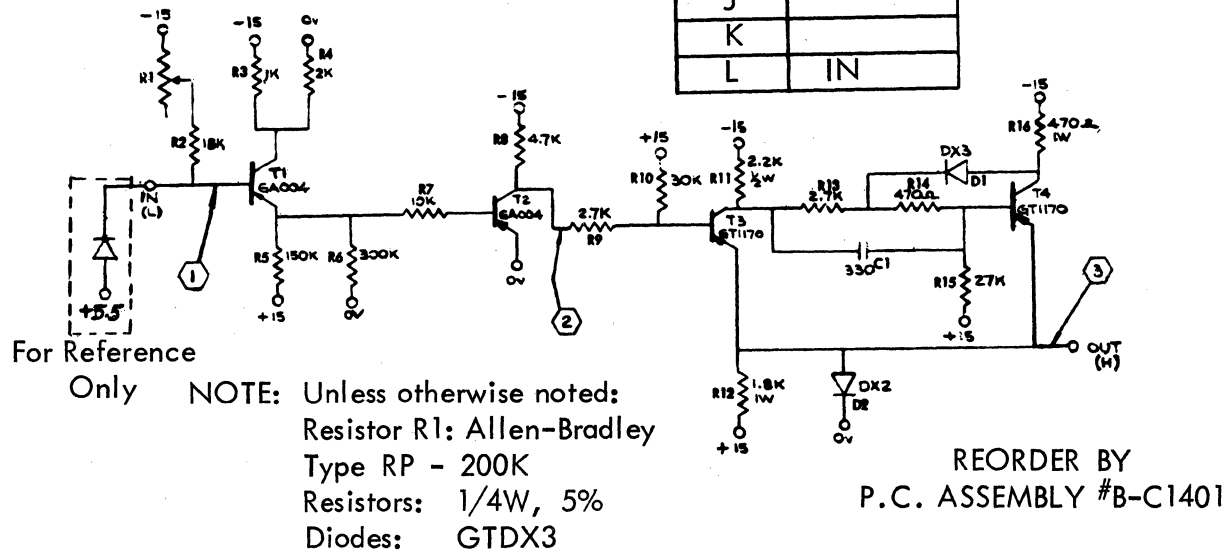

FIGURE 3-8 SCHEMATIC DIAGRAM - PSF-A
(3) Circuit Description Sprocket Amplifier/Shaper PSF-A (See Figure 3-8)